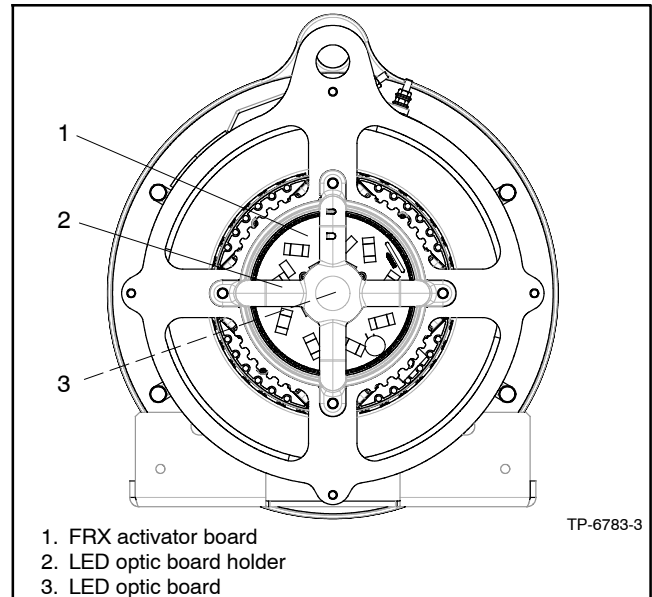

Figure 11-3 FRX Activator Board with LED Optic Board Installed.
1. Remove the junction box panels from the generator end of unit and remove the LED optic board holder/LED optic board. See Figure 11-3.